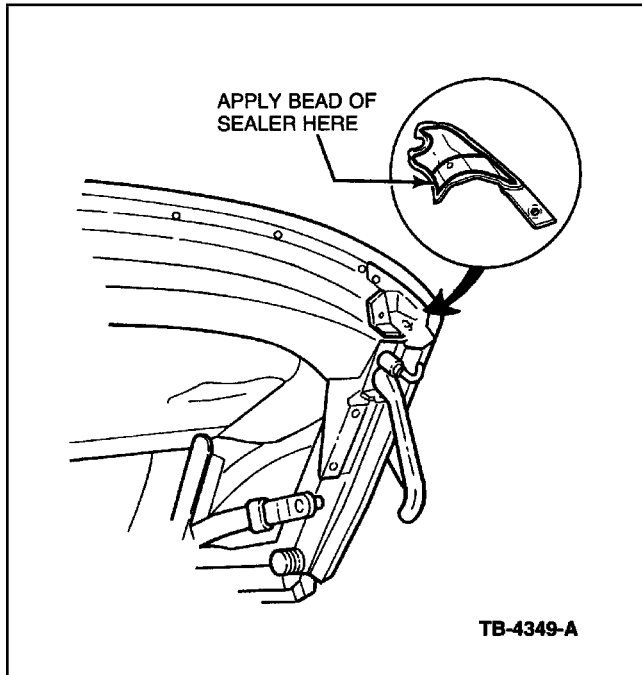

Figure 3 - Article 96-10-2
3. Apply a bead of sealer to the entire outside perimeter gasket face of the retainer (fish plate), and a bead lengthwise across the center. Refer to Figure 3.